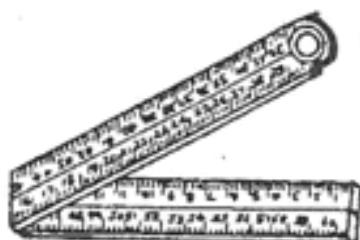

Fig. 10.1. Folding rule.
**13. Carpenter's folding rule.** It is a wooden scale consisting of four pieces, each 6 inches or 15 cm long, joined together by means of hinged joints to make it folding. When opened out, its total length measures 2 feet or 60 cm and on being folded it measures equal to one piece length i.e., 6 in. or 15 cm. The inches graduations are divided further into eights and 16ths, whereas the centimetres. A good form of this rule is shown in Fig. 10.1. It is mainly used for measuring and setting out dimensions.